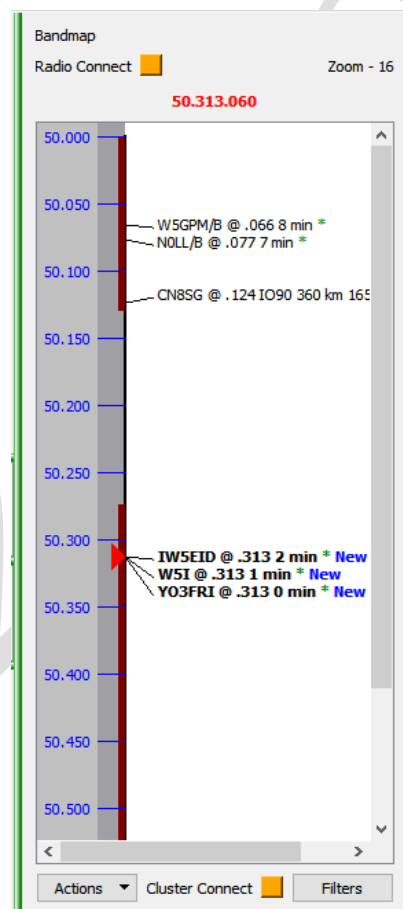

Figure 156 – Bandmap display
An example display is shown in Figure 156. **Beware:** if you don't see anything, check your filters
To vary the zoom in order to focus on areas of interest use the scroll wheel¹³² while hovering over the grey frequency bar. The current zoom setting (- 16, the least zoom, in Figure 156) is displayed in the top right of the panel. The scroll bar on the right can be used to move within the extended display thus created, or the scroll wheel while hovering over the white portion of the panel¹³³.
- The current rig frequency is indicated by the black ‘play’ symbol (‘dial cursor’ on 144.290 in Figure 156). If this symbol turns red it indicates that it is a frequency/mode pairing that does not match the bandplan.
- If the dial cursor is not viewable, click the dial frequency at the top of the panel (144.290 at top of Figure 156) to bring that frequency back into the viewport.